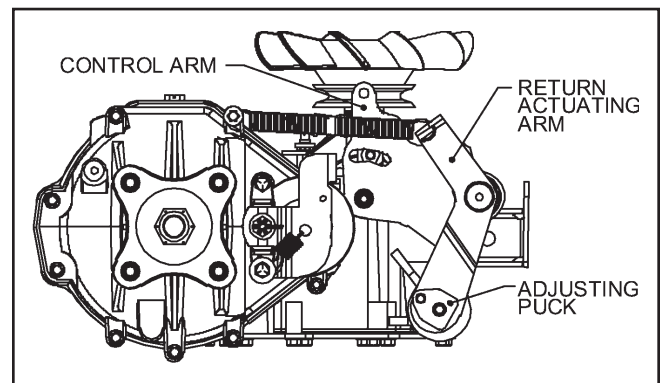

Figure 9. Return to Neutral, Foot Control
2. Remove the Original Equipment Manufacturer's (OEM's) control linkage at the control arm. Refer to Figure 9.
5. Stop the vehicle's engine. Adjust the OEM linkage according to the OEM manual. Recheck according to Step 3 and 4. Stop the vehicle engine. Refer to Figure 9.
6. Note the axle directional movement. Stop the vehicle engine. Loosen the adjusting puck screw until the puck can be rotated. Rotate the adjusting puck the opposite direction of the wheel rotation on the control linkage side in 5 degree increments. Tighten the adjusting puck screw. Refer to Table 5. Required Torque Values, Page 17. Recheck according to Step 3 and 4. Stop the vehicle engine. Adjust the OEM linkage according to the OEM manual. Recheck according to Step 3 and 4. Refer to Figure 9.